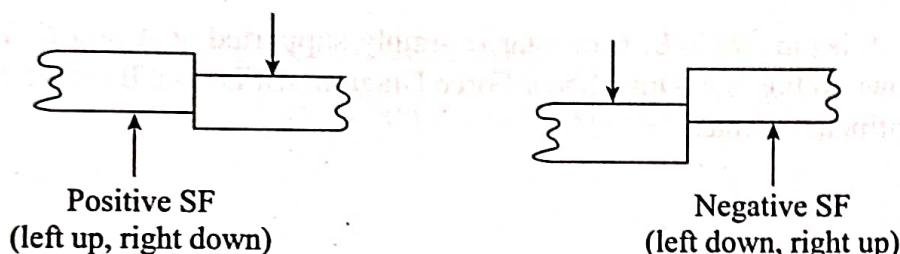

Figure 6.2
The shearing force (SF) which tends to slide the left-hand side of the section of the beam *upwards* relative to the right-hand side will be considered *positive*, and that which tends to slide the left-hand side of the section of the beam *downwards* relative to the right-hand side will be considered *negative* (see Fig. 6.2).